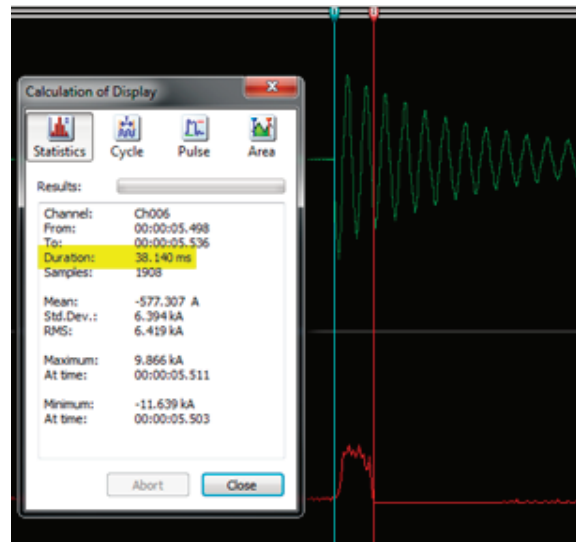

Figure 2. Control response and fault current decay resulting from a short circuit with AmpSentry Maintenance Mode active
Figure 2 displays a current trace created during a test of AmpSentry Maintenance Mode. Note that in this test the control recognized the fault within 38 msec of the fault occurrence and shut off the genset fuel and excitation. The current decayed exponentially according to the transient time constant.
With AmpSentry Maintenance Mode enabled we calculated an arc flash energy level of 11.3 cal/cm². With Maintenance Mode enabled the control shuts off fuel and excitation immediately on recognizing the fault. The arc doesn’t necessarily immediately extinguish however due to energy stored in the windings. As can be seen in Figure 2 when excitation is shut off fault current decays exponentially based on the transient time constant. It takes 1 transient time constant (0.19 sec for this alternator) for the current to decay to a level that the arc extinguishes. (NFPA 70E D.5(1) states that the industry accepted minimum level for a sustaining arcing fault is 38 percent of available bolted fault current. 38 percent of initial current corresponds to 1 time constant.)